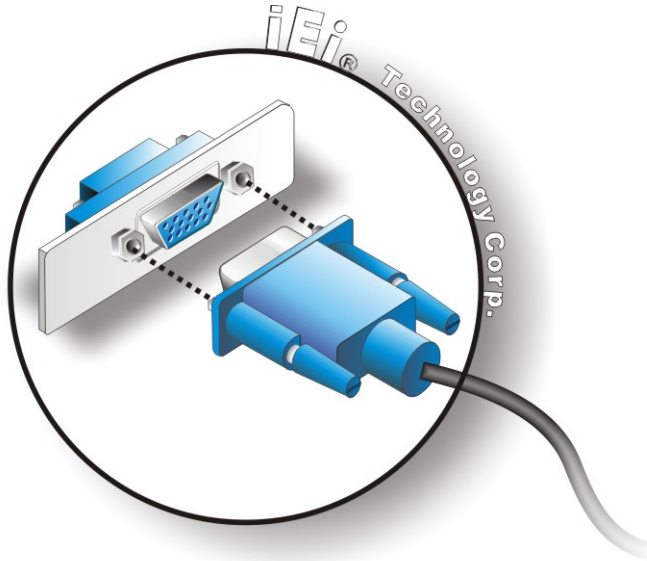

Figure 3-29: VGA Connector
Step 3: **Insert the VGA connector** Once the connectors are properly aligned with the insert the male connector from the VGA screen into the female connector on the UPC-V312-D525. See **Figure 3-29**.